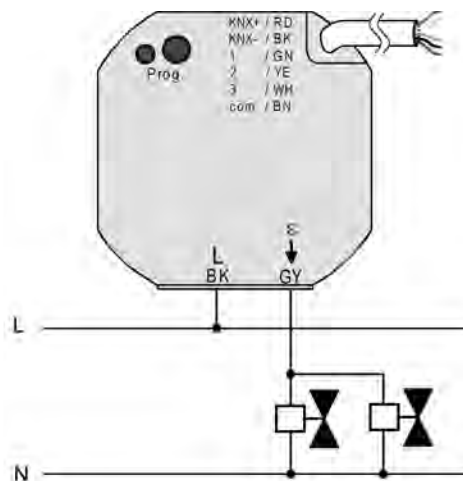

Figure 4: Connection of the mains voltage and the load
- (4) Device box (e.g. electronics box)
- (5) Partition
- (6) Series switch
- (7) Potential-free contact, e. g. window contact
- Connect the mains voltage and electrothermal actuators using the included screwless terminals (figure 4).